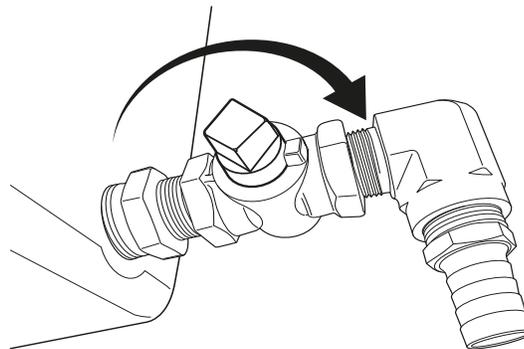

Figure 6.33 - Close Engine Oil Drain Valve
6. Close Drain - Close the oil drain valve by turning the valve handle clockwise until it is fully shut (Figure 6.33).